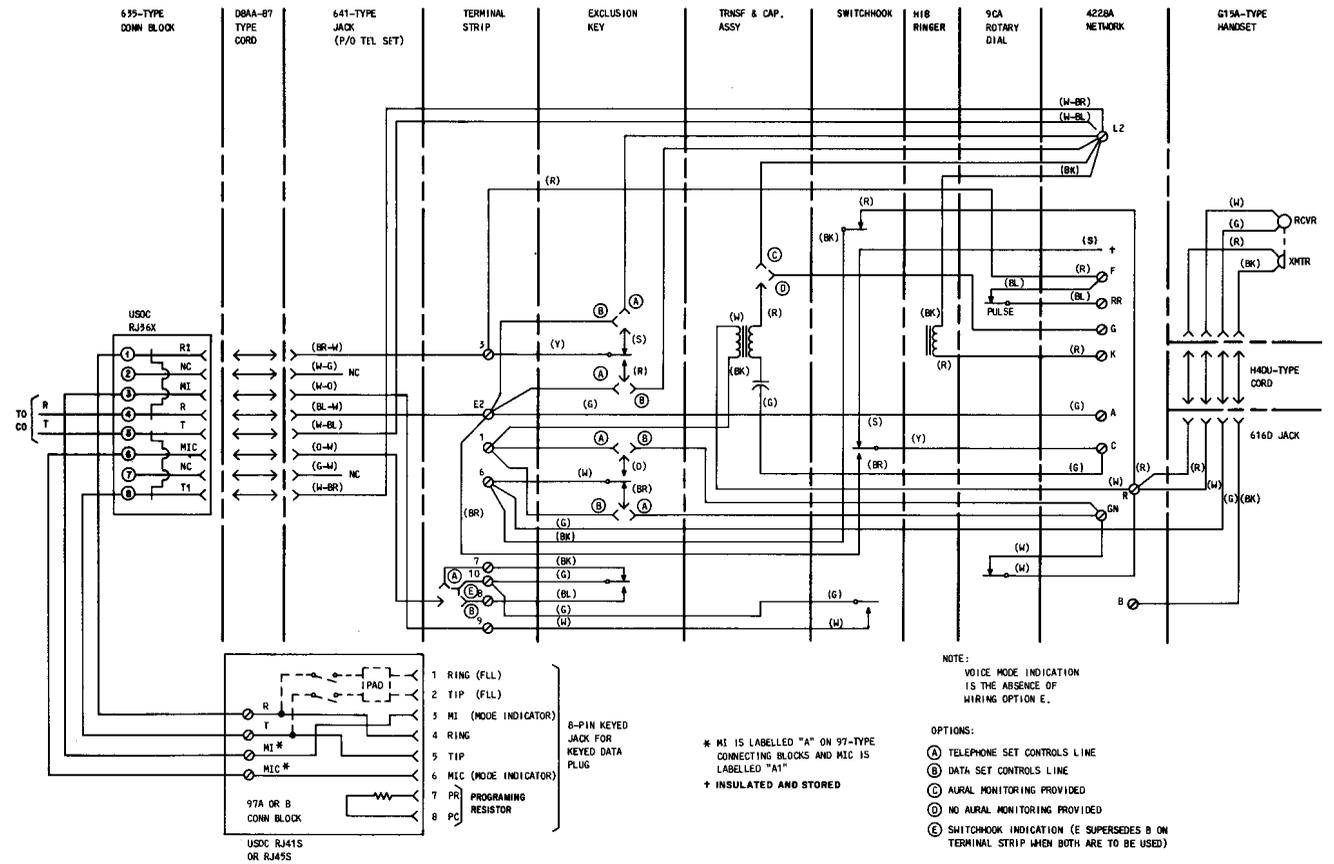
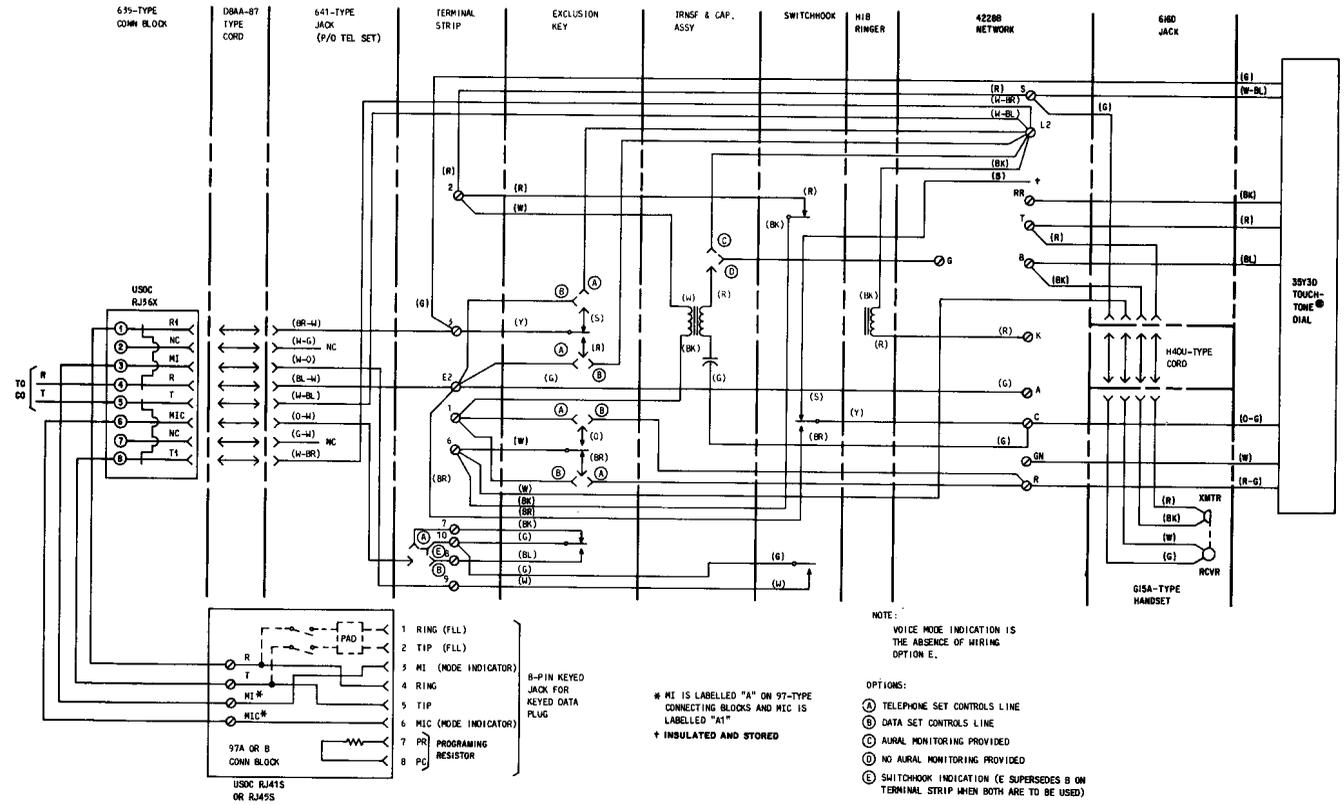

Fig. 11—503CM Telephone Set—Registration Jack Connections
Fig. 12—2503CM Telephone Set—Registration Jack Connections
2.26 **USOC RTC:** This is the USOC for the 503CM or 2503CM telephone set which provides exclusion key transfer of the line to either the telephone set or the data set and provides a mode indication to the data set. The set is connected by means of a D8AA-87 cord which plugs into an 8-position series jack (635-type connecting block, RJ36X) and which connects to the data jack as shown in Fig. 11 for the 503CM telephone set or Fig. 12 for the 2503CM telephone set.
2.28 Refer to Fig. 11 or 12 for wiring and connection diagrams for the telephone set. With wiring option B (Fig. 12 or 13) the telephone handset is lifted from the switchhook and the exclusion key lifted for the voice mode. This is usually described as "data set controls the line" because, until the telephone set exclusion key is lifted, the data set has control over incoming and outgoing calls, as it is directly connected to the line. The positive action of going off-hook with the telephone set is required to take the line away from the data set. Operation of the telephone set can be inverted by reversing the exclusion key wiring [wiring option A (Fig. 11 or 12)] so that the telephone set controls the line and the exclusion key must be operated to allow data set connection to the line. With aural monitoring (wiring option C), the telephone handset is bridged on the line on a high impedance basis whenever the handset is